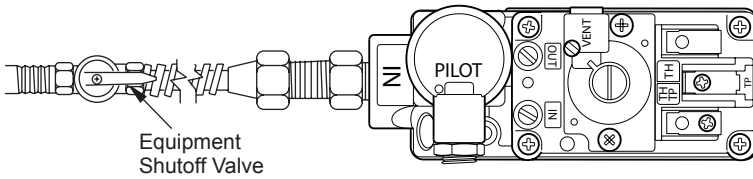

Figure 36 - Turning Equipment Shutoff Valve to the OFF Position
5. Turn equipment shutoff valve clockwise  to the OFF position (see Figure 36). Do not force.
6. Wait five (5) minutes to clear out any gas. Then smell for gas, including near the floor. If you smell gas, STOP! Follow "B" in the safety information. If you don't smell gas, go to the next step.
- Turn the adjustment screw marked PILOT clockwise to decrease or counterclockwise to increase the flame to proper size (see Figure 36). Do not remove the adjustment screw.